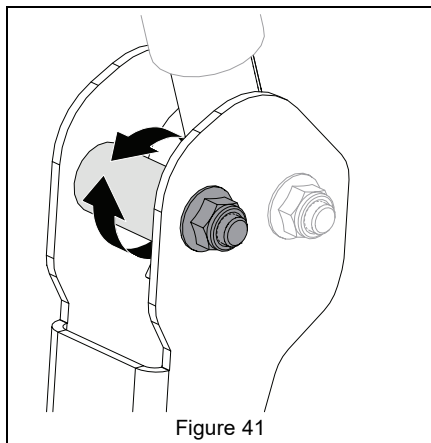

Figure 41
6. Adjust eccentric spacer so levers are at the same height and have a 1.3 cm – 2.5 cm (1/2" – 1") gap between lever ends. See Figure 41.